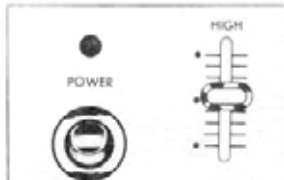

Figure 10.
5. Adjust pitch-control slide for tuning figure 10.